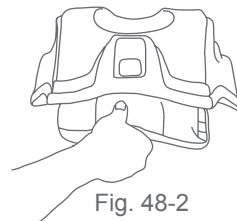

Fig. 48-2
- If the Seat Angle Indicator shows **ANY** red, the Safety Seat is either **too upright or too reclined**. If the seat is too upright, extend the foot one position at a time just until no red shows. To extend the foot of the base, pull downward on the hand hold as shown in Fig. 48-2 while holding against the base. To retract the foot, press inward on the lock button as shown in Fig. 48-3 and push upward on the foot. Be careful not to pinch your finger as the foot retracts. Check the level indicator to see if the seat is now level.